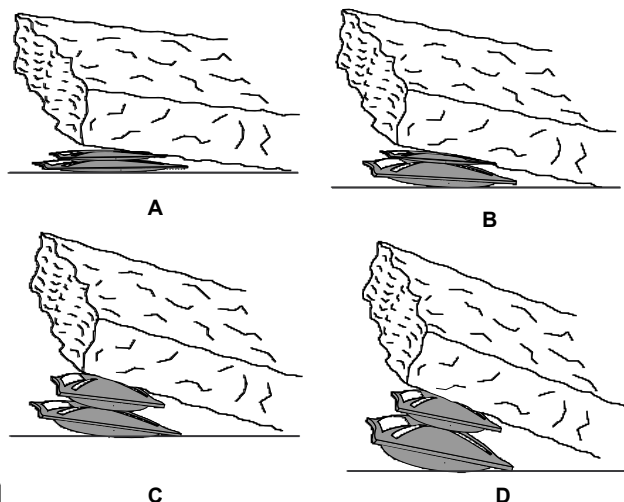

Figure 2-14. Correct Method for Inflating Stacked Lift Bags
g. If the lift height requirement demands the use of two stacked lift bags, (Figure 2-14) the smaller lift bag shall be on the top (A) and the bottom lift bag inflated first until the top lift bag contacts the load (B). The top lift bag is then inflated to achieve the desired lift (C). If additional lift is required at full inflation of the top lift bag, the bottom lift bag is further inflated (D).